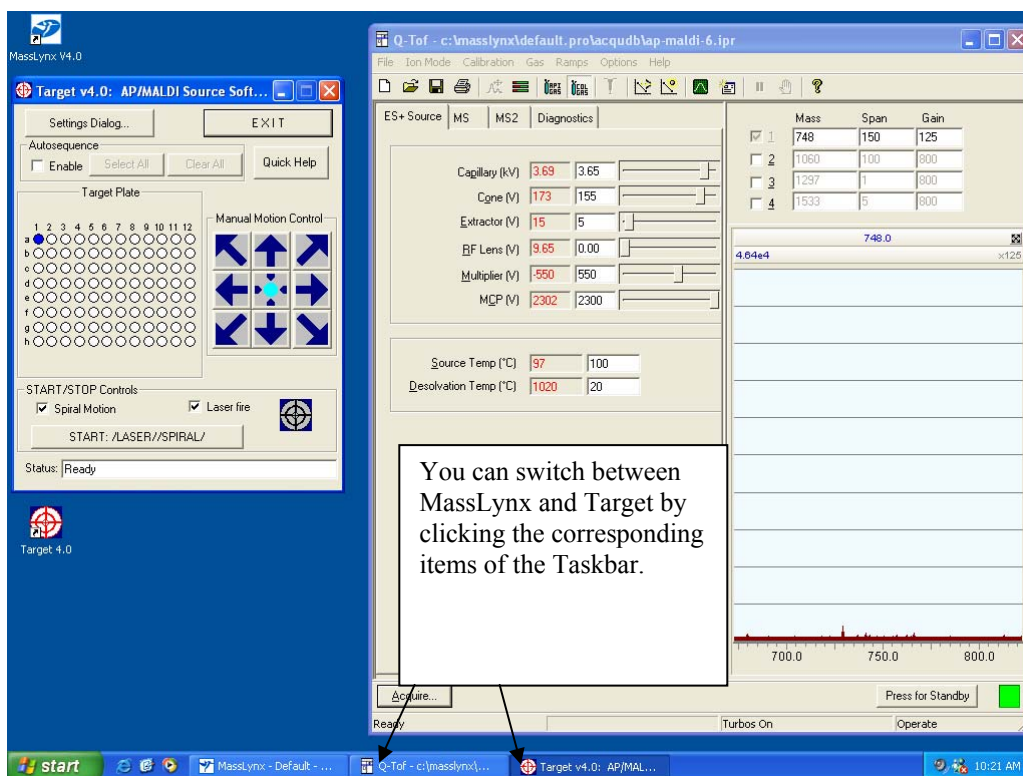

Fig. 44. Operation of both AP/MALDI Target software and MassLynx
- Fig. 44 represents the operation of both MassLynx and AP/MALDI simultaneously on the same computer. You can easily switch between the *MassLynx* and *TARGET* programs. Or alternatively, separate computers can be used to run *TARGET* software and operate AP/MALDI. *TARGET* software is an independent, stand-alone user interface.